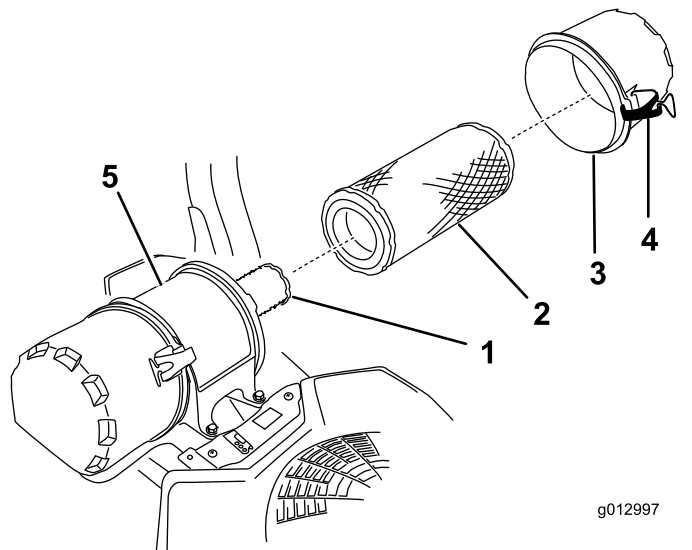

Figure 48
6. Release the latches on the air cleaner and pull the air-cleaner cover off the air-cleaner body (Figure 48).
8. Gently slide the primary filter out of the air-cleaner body (Figure 48).
2. If the inner filter is being replaced, carefully slide it into the filter body (Figure 48).
3. Carefully slide the primary filter over the inner filter (Figure 48).
- 4. Install the air-cleaner cover and secure the latches (Figure 48).